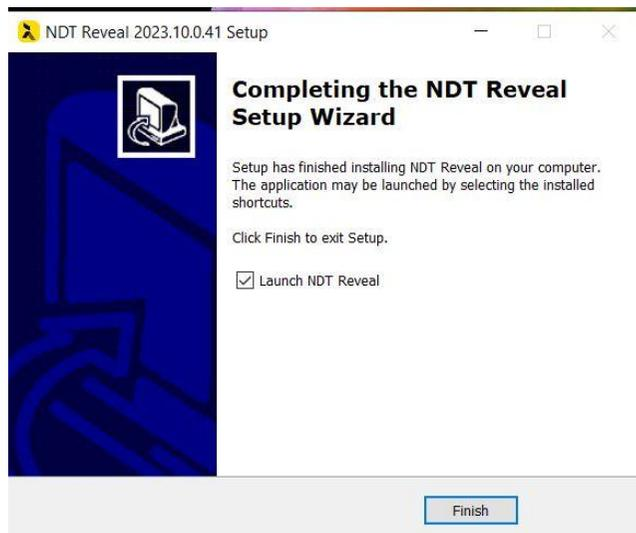

Fig. 8 NDT Reveal Final Installation step
8. Press FINISH to complete the installation and run the SW (Fig. 8),